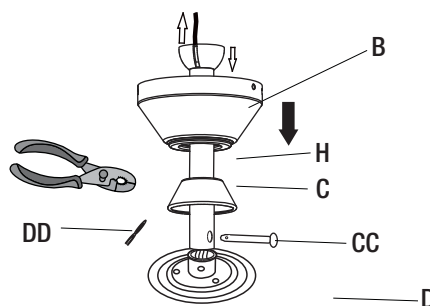

Figure 5
- Place the downrod assembly (H) through the ceiling canopy (B) and hanger cover (C). Insert the motor wires through the downrod assembly (Figure 5).